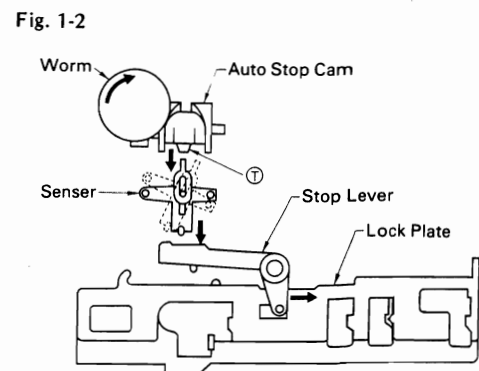

Fig. 1-3
A. Mechanism drive unit (See Fig. 1-3, Fig. 1-4 and the mechanism exploded view in page 7,8)
B. PLAY motion (See Fig. 1-1 and Fig. 1-3)
D. FF motion and REW motion (See Fig. 1-1 and Fig. 1-3)
- 1) When the FF button is pressed, the FF plate is pushed up by the drive unit, causing the gear of the tension ass'y to be meshed with the idler gear linked with the take-up reel hub ass'y. As a result, motor revolution is transmitted to tension ass'y, idler gear and take-up reel hub ass'y in this order. (Fig. 1-1 B, Fig. 1-3 B)
- 2) When the REW button is pressed, the REW plate is pushed up by the drive unit, causing the gear of the tension ass'y to be meshed with the gear of the supply reel hub. As a result, motor revolution is transmitted to tension ass'y and supply reel hub in this order. (Fig. 1-1 C, Fig. 1-3 C)
E. PAUSE motion (See Fig. 1-3)
G. AMPS motion (See Fig. 1-1, Fig. 1-3 and mechanism exploded view in page 7)